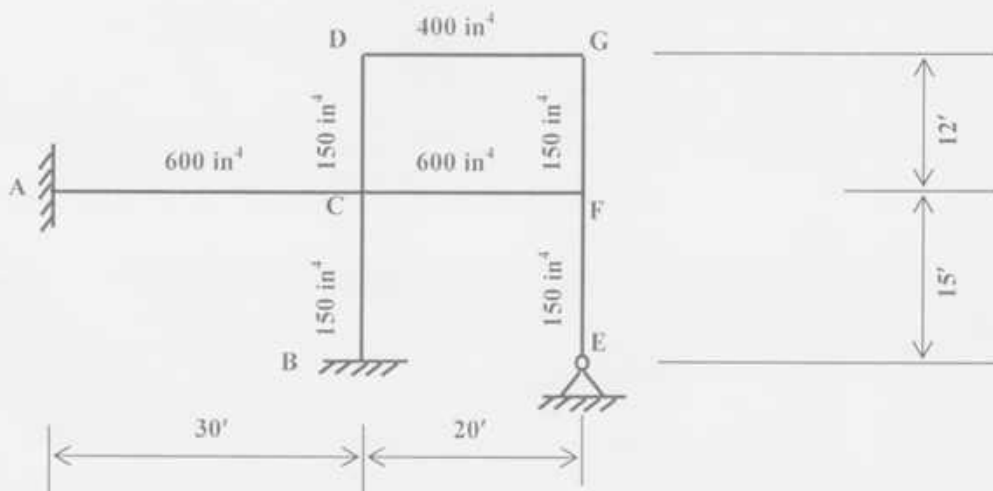

Fig. 6
6. Use Stiffness Method to calculate the approximate first critical buckling load P for the beam ABC loaded as shown below in Fig. 6, considering flexural deformations only with geometric nonlinearity [Given, $EI = 50 \times 10^3 \text{ k-ft}^2$].
11. For the beam shown in *Fig. 6*, calculate the approximate first natural frequency in transverse direction using consistent mass matrices [Given, $EI = 40 \times 10^3$ k-ft², $m = 0.0045$ k-sec²/ft²].
8. Determine the effective length coefficients for the columns BC, EF, CD and FG of the frame shown in Fig. 6. The relevant moments of inertia of the members in inch^4 are shown in the figure. The Nomographs are provided in Annexure-5.